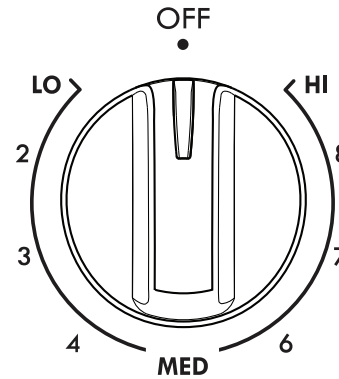

Figure 1: Single element knob
2. Push in and turn the surface control knob in either direction (Figure 1) to the desired setting (refer to the “Suggested radiant surface element settings” in Table 1).
Start most cooking operations on a higher setting and then turn to a lower setting to finish cooking. The surface control knobs do not have to be set exactly on a particular spot. Use the graphics provided as a guide and adjust the control knob as needed (see Figure 1).